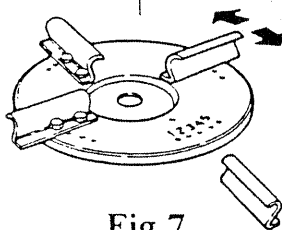

Fig.7
6.5 DISCO CON PALETTE REGOLABILI (fig.7)
6.5 SPREADING DISC WITH ADJUSTABLE BLADES (fig.7)